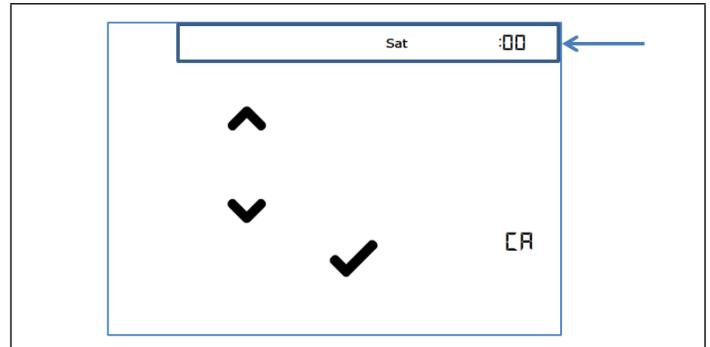

Figure 3-18 - Time and Day Settings
- The last step (see **Figure 3-18**) is the day of the week that will be flashing at the top of the screen. To change the day of the week, press either the up or down arrow to the desired value, and then press the check icon to save the changes. Press **CA** to cancel and return to the normal display without saving any changes.
- The second step (see **Figure 3-18**) is the hour field that will be flashing on the top right of the screen. To change the hours, press either the up or down arrow to the desired value, and then press the check icon to go to the next parameter.
- The third step (see **Figure 3-18**) is the minutes field that will be flashing on the top right of the screen. To change the minutes, press either the up or down arrow to the desired value, and then press the check icon to go to the next parameter.